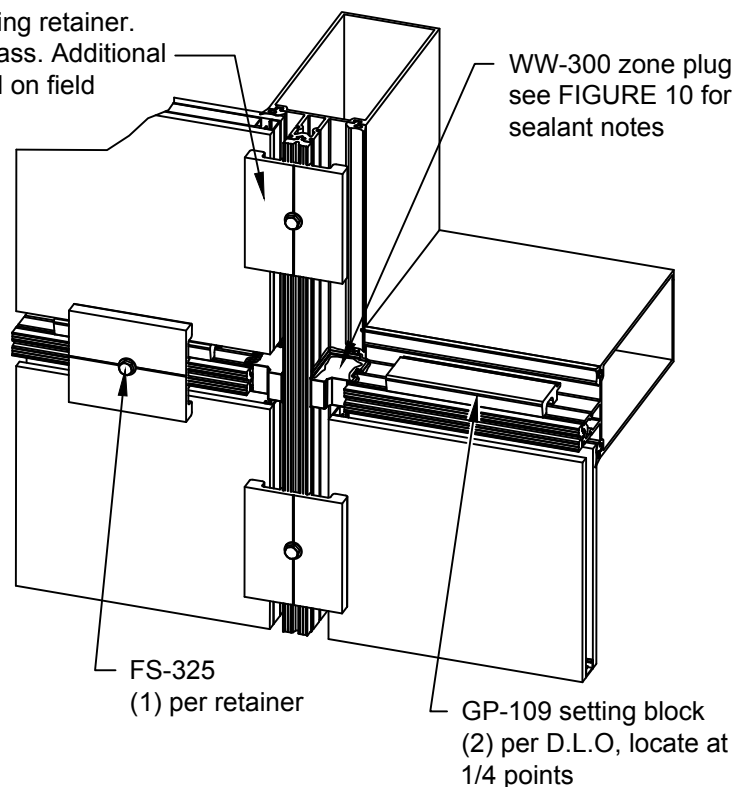

Figure 18
- Full length pressure plates must be installed if severe weather or high wind loads are anticipated. SEE FIGURE 18 & 19.